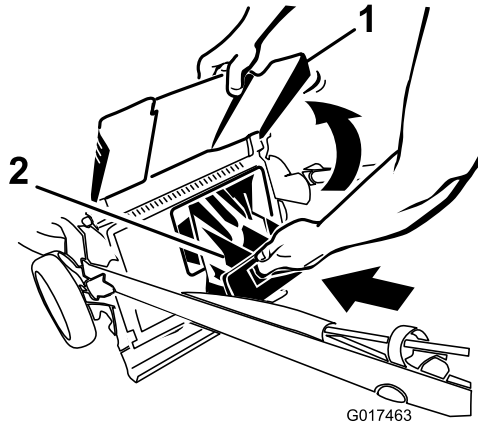

Figure 31
**Important:** Ensure that the rear-discharge plug is locked in place. To lock the plug: Raise the discharge deflector (Figure 31), firmly push the plug in until it snaps into place behind the tabs, and rotate the lever on the plug to the left (Figure 30).